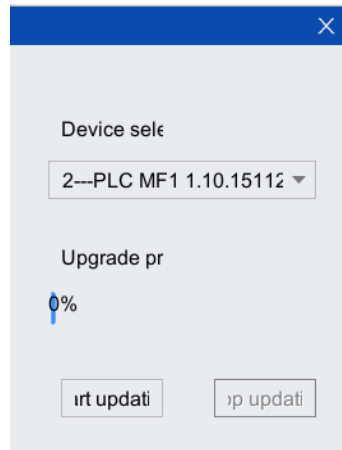
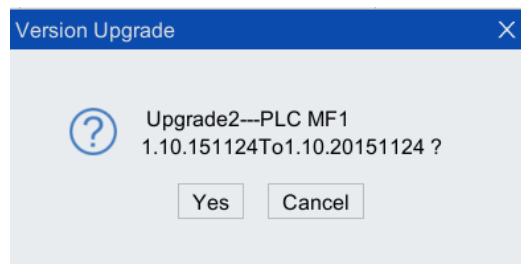

Figure 8-46 "Upgrade" window
Figure 8-47 "Are you sure to upgrade MF to the corresponding version" dialog box
Step3.Pop up "Upgrade" window shown in Figure 8-46, find "PLC\_MF" option in "Equipment Selection", and then click <Start Update> button. Pop up "Upgrade2---MF \*\*\*?" dialog box in Figure 8-47, and click <Yes> Button to pop up the upgrade progress bar. The MF file upgrade will take about 30s.